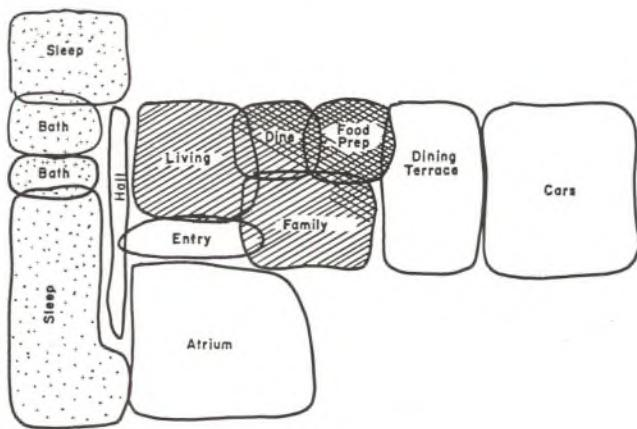

Fig. 30.1 A bubble diagram.
4. If, as you try different planning arrangements on tracing paper laid over your plot plan, you find that there are problems, such as a poorly located driveway, the sun striking the house on the wrong side, or bedrooms on the noisy side of the lot, try turning over your bubble diagram (which has been drawn on tracing paper), thereby reversing the plan. Lay the reversed plan on the plot plan for study. This will show you how a reversed version of the plan would work on the lot. Reversing a plan often makes a significant difference in the livability of a house. (See Figs. 30.1 and 2.)